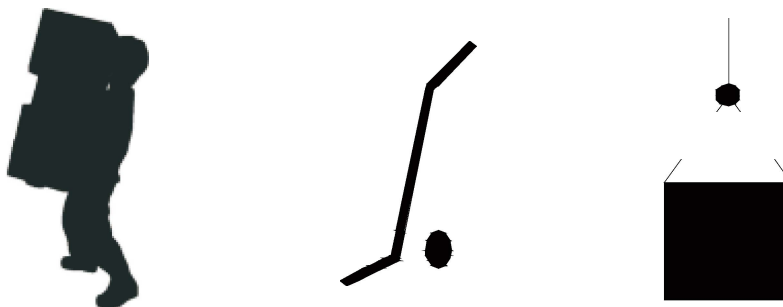

FIG 9-2
3. Product handling, generally using portable, car handling and lifting and moving, as shown in the figure 9-2.